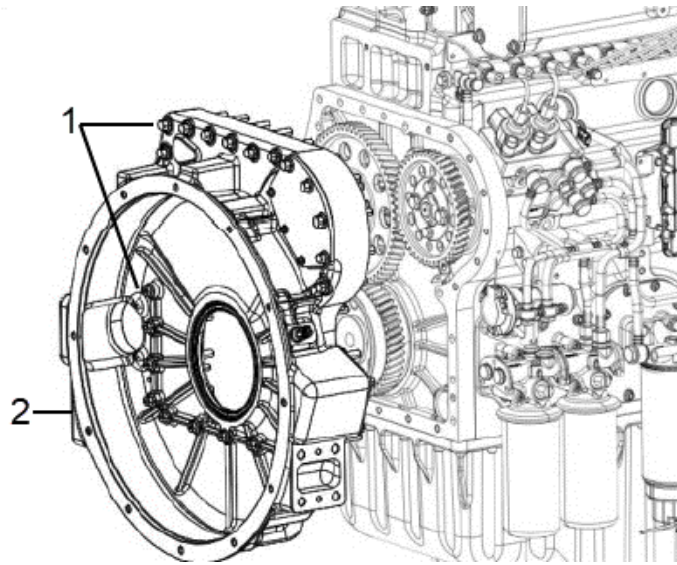

Figure 115.
6. Apply Loctite 242 sealant coated at the threads of the flywheel housing bolts (Figure 115, Item 1).
8. Tighten the bolts in two steps in the following sequence (Figure 115):